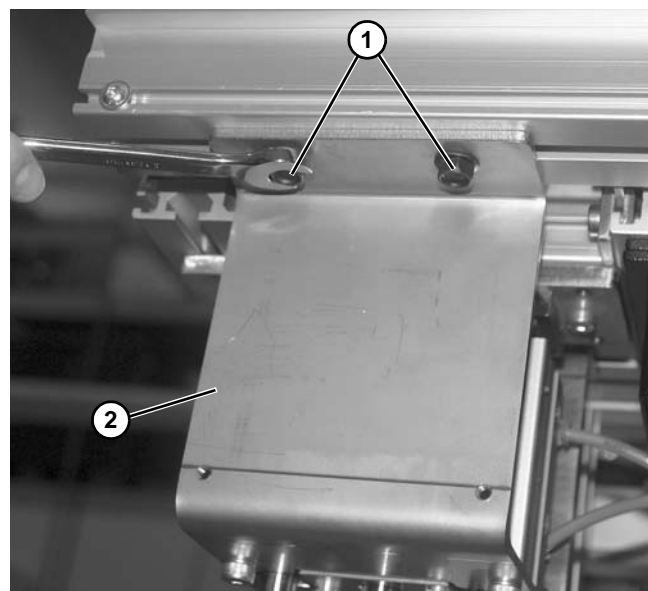

Figure 34
3. Remove two screws (Figure 34, item 1) securing bracket (Figure 34, item 2) onto conveyor frame spring nuts.